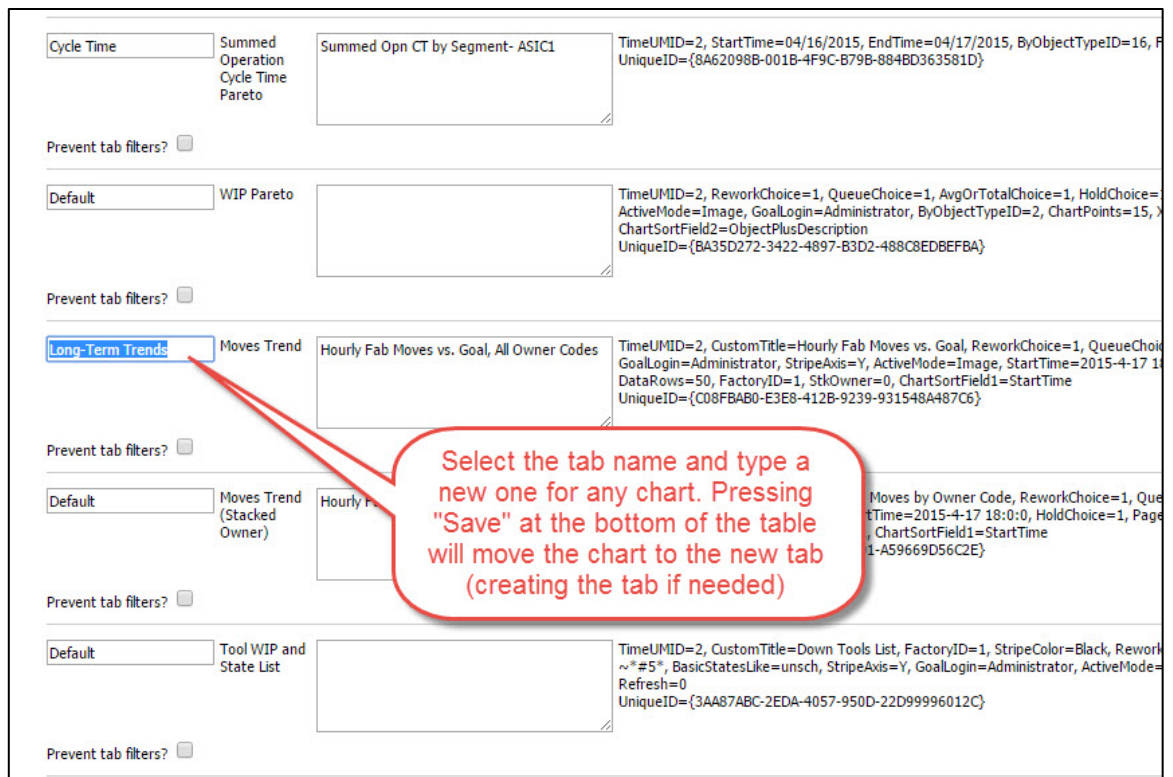

Figure 1. Example of Manage Tabs/Notes Interface
- b) To move a chart to a new home page tab, just enter the name of the new home page (e.g. Long-Term Trends) in the Home Page Tab box, as shown in Figure 1 on the next page, and press the Save button at the bottom of the page. FabTime will then build a separate home page tab for each unique home page name entered. Be careful here – if you enter two different tab names that are almost the same, like Move Charts and Moves Charts, you will get two separate home page tabs.